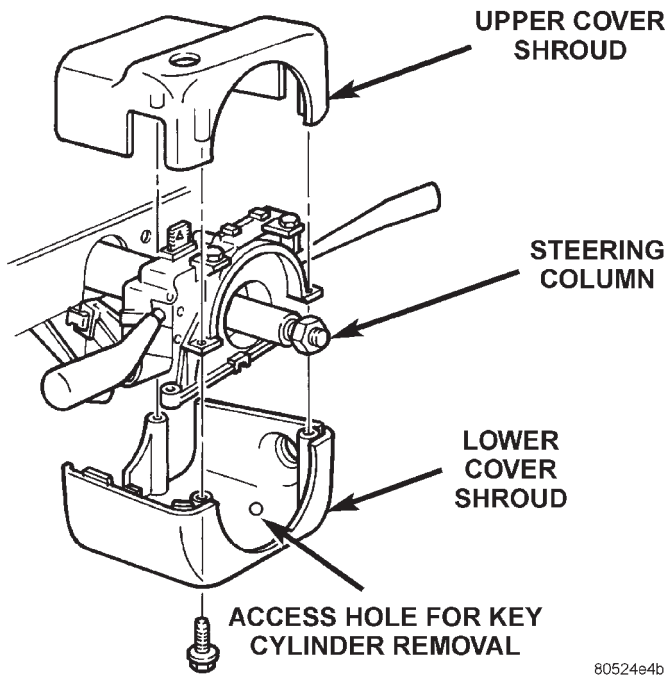

Fig. 2 Upper/Lower Shroud
(6) Remove the steering column cover. Refer to Group 8E, Instrument Panels and Systems for Removal and Installation procedures.
(7) Remove the steering column cover liner. Refer to Group 8E, Instrument Panel and Systems for Removal and Installation Procedures.
(8) Remove the three lower-to-upper shroud attaching screws through the bottom of the lower shroud and remove the lower shroud (Fig. 2).